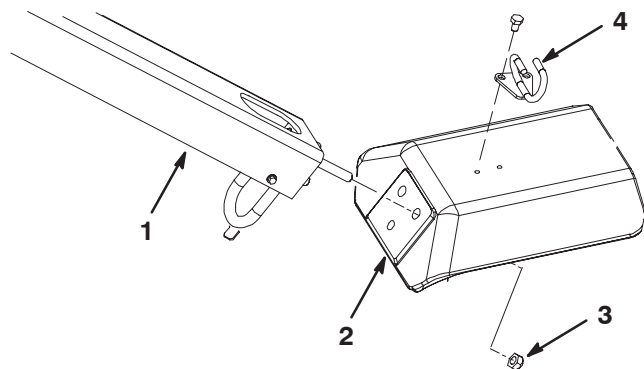

Figure 3
2. Insert the handle mounting studs into the holes in the fork (Fig. 3).
3. Secure handle studs to fork with (3) 1/2–20 locknuts (Fig. 3)
5. Mount the cable guide to the top of the fork with (2) 5/16 x 1/2" capscrews (Fig. 3).